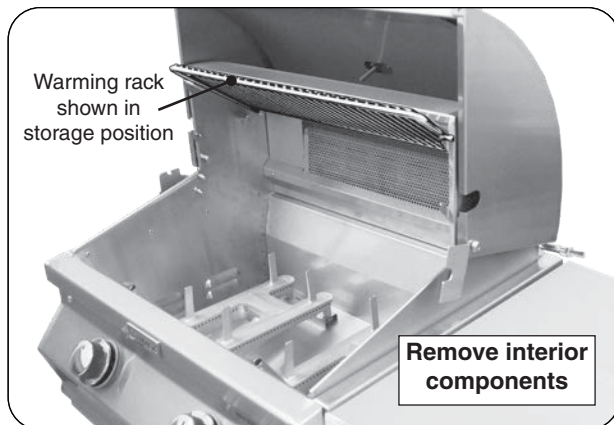

Fig. 27-1 Prepare grill for rotissing
1. On the gas side of the grill, set the warming rack to storage position, remove the backburner cover and cooking grids (see Fig. 27-1).